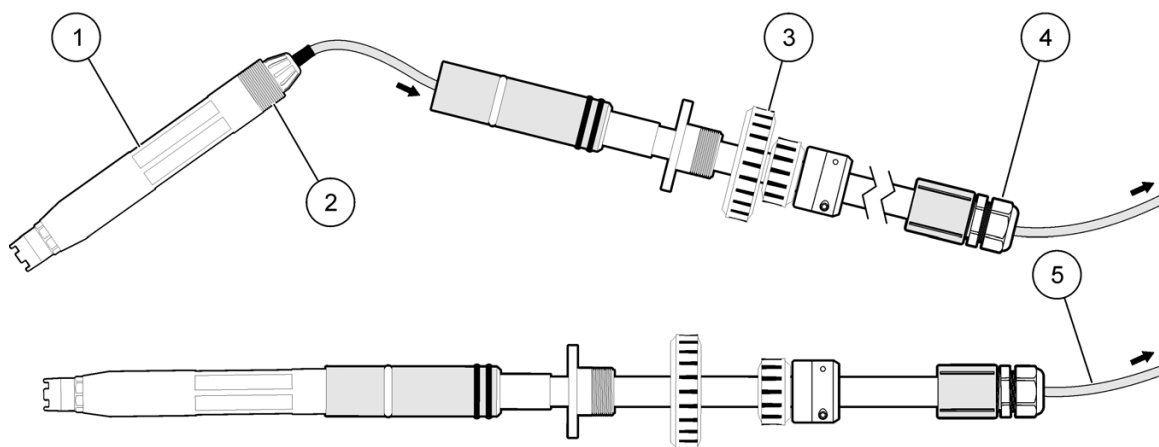

Figure 3 Attaching sensor to shaft assembly
6. Apply Teflon tape to the sensor threads at the cable end to avoid leaks (pipe sealant with Teflon®, Locktite No. 59321 or equivalent, may not provide adequate sealing at higher solution temperatures). Fasten the sensor onto the shaft assembly. See Figure 3.